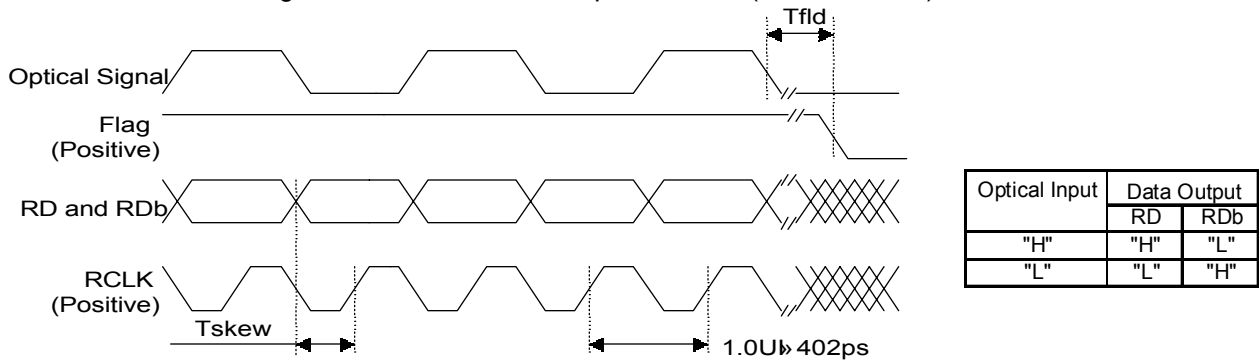

Figure 4 Output Timing Chart
1. 2488.32Mbps, PRBS 2²³-1 2. Output current is not included. 3. V_{ccd} , V_{cca} = 5.0V, T_c = 25°C 4. R_I = 50 Ω , Single end out. 5. Please refer to Figure 4.
Maximum transmission distance is 50km. 3. 2488.32Mbps, PRBS 2²³-1, NRZ 4. Please refer to Figure 4